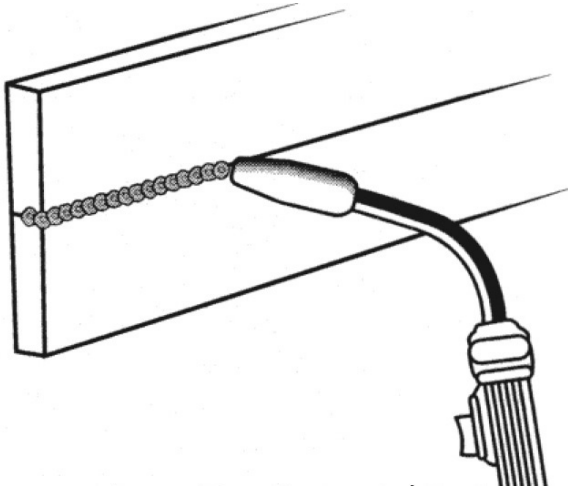

Figure 16. Horizontal Position
2. The **HORIZONTAL POSITION** (Figure 16) is next in difficulty level. It is performed very much the same as the flat weld except that angle B (see **HOLDING THE GUN** - p.18) is such that the wire, and therefore the arc